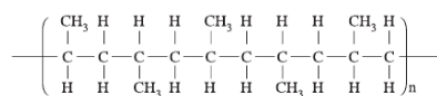

Figure 1 – small section of a polymer chain
1. Consider the small section of a polymer shown in fig. 1.
- a. This polymer starts to soften at temperatures around 260 °C , whilst the polymer shown in fig. 1 above softens at much lower temperatures.
The polymer in fig. 3 has intermolecular forces of attraction comprising of dipole-dipole interactions and significant dispersion forces than the polymer in fig. 1.
The polymer in fig. 1 has intermolecular forces of attraction composed solely of dispersion forces. These dispersion forces are relatively weaker than the polymer in fig. 3 since its molecular mass is much lower than that of the polymer in fig. 3.